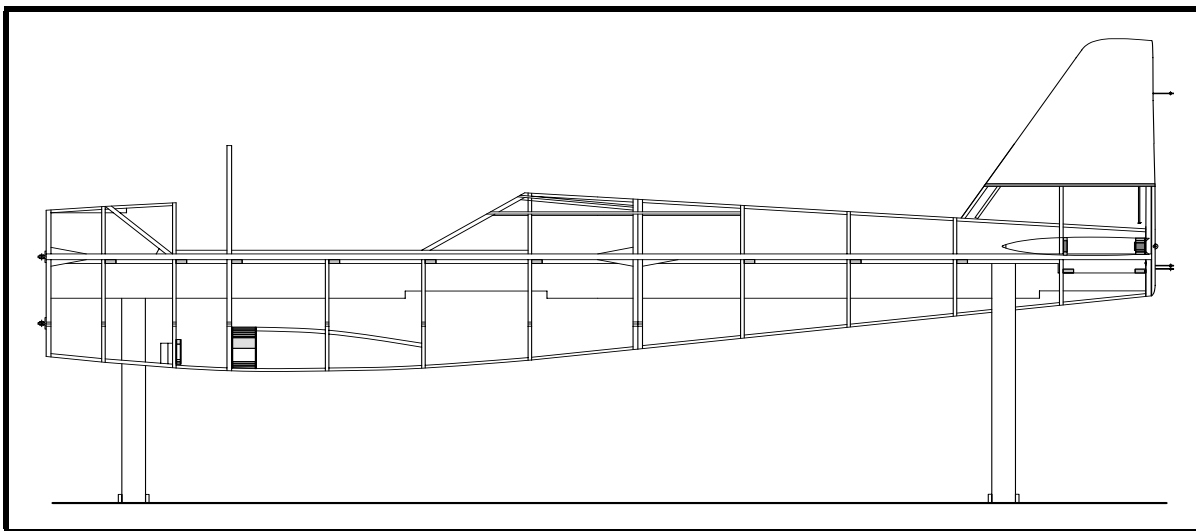

Figure 2
- ❑ Fit and glue in place the vertical supports for the aft end of the nose gear bay walls. See Figure 2. The vertical brace for the left nose gear bay wall is made of 20x18 spruce. The vertical brace of the right nose gear bay wall is made of 50x18 spruce as shown in Drawing No. 105.